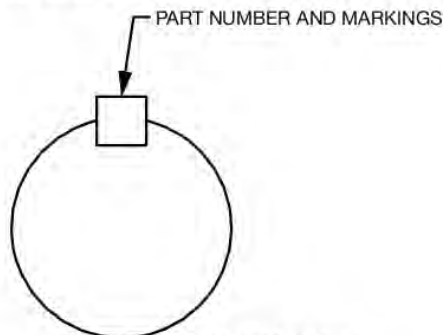

Figure 5- Key Marking
PLEASE NOTE – In most cases the keys that are supplied with the bushing kit are NOT square keys, and the orientation of the key is important. Install the key so that it fits snugly in the width of the keyseat. The keys are marked with a part number and some keys are also etched with "THIS SIDE UP" – these markings should be showing on the top of the key when it is installed in the shaft keyseat, see Figure 5 below.
1. One bushing assembly is required to mount the reducer on the driven shaft. An assembly consists of one long tapered bushing, one short tapered bushing, one tapered bushing wedge, bushing screws and washers, two bushing backup plates and retaining rings, and necessary shaft key or keys. The driven shaft does not need to extend through the reducer for the short shaft bushing to operate properly. The minimum shaft length, as measured from the end of the shaft to the outer edge of the bushing flange (Figure 5), is given in Table 1.